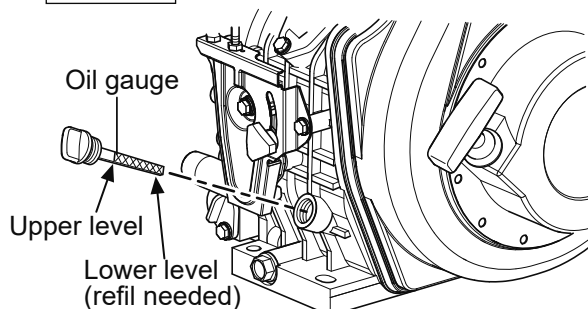

Fig. 1
- Check the oil level. If the oil level is low, fill oil. (Fig.1&2)